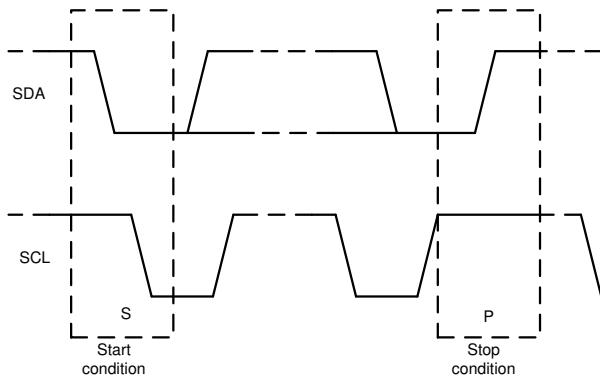

图 7-10. Start and Stop Conditions
1. The controller initiates data transfer by generating a start condition. The start condition is when a high-to-low transition occurs on the SDA line while SCL is high, as shown in 图 7-10. All I²C-compatible devices recognize a start condition.
4. To signal the end of the data transfer, the controller generates a stop condition by pulling the SDA line from low-to-high while the SCL line is high, as shown in 图 7-10. This action releases the bus and stops the communication link with the addressed target. All I²C-compatible devices recognize the stop condition. Upon receipt of a stop condition, the bus is released, and all target devices then wait for a start condition followed by a matching address.